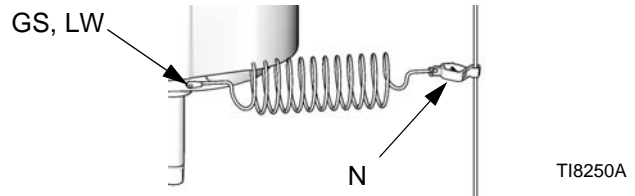

FIG. 1. Ground Wire
Pump: use ground wire and clamp (supplied). See FIG. 1. Use the ground screw (GS) and lock washer (LW) to attach the ground wire (N) at the rear of the air motor. Tighten the screw securely. Connect the other end of the ground wire to a true earth ground.